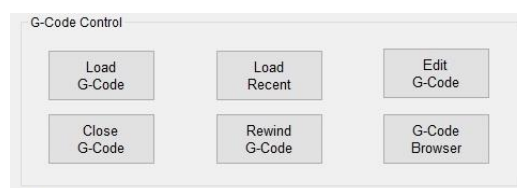

Fig 77 G-Code Control pane
1. The G-Code Control pane (Fig 77) has six buttons: